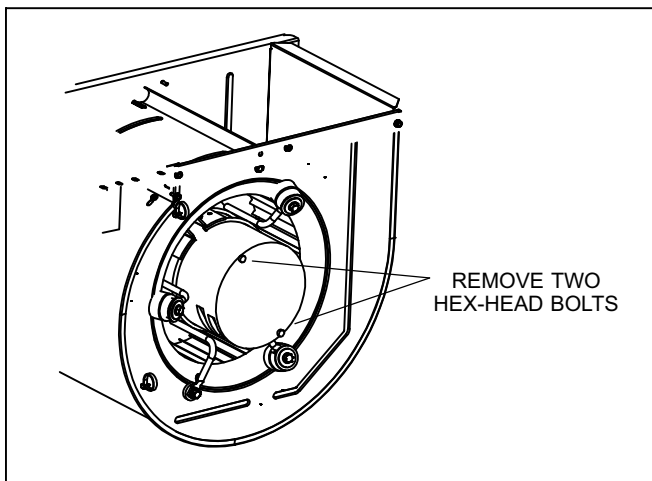

Figure 2. Fasteners
- 5 - Locate and loosen the two hex-head bolts on the flat end of the motor control module casing as illustrated in Figure 2. Hold the control module while you remove these two bolts.